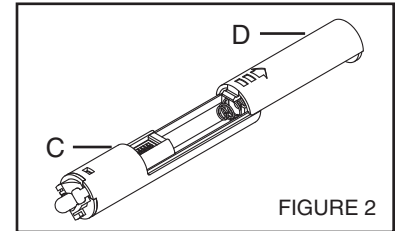

FIGURE 2
1. Open battery cover (D) by sliding it in direction indicated by arrow. (Figure 2)